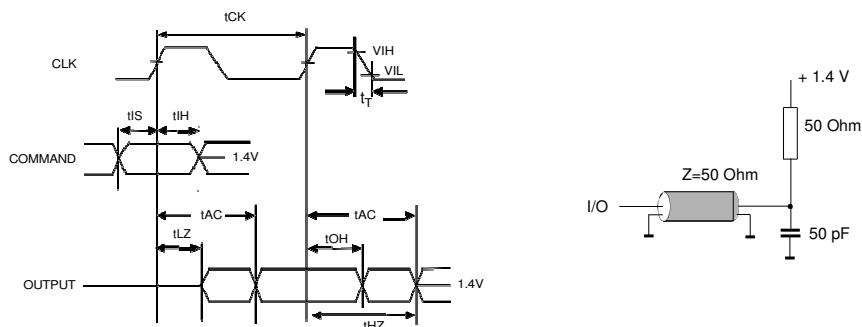

Figure 1.
- AC timing tests have  $V_{IL} = 0.4V$  and  $V_{IH} = 2.4V$  with the timing referenced to the 1.4 V crossover point. The transition time is measured between  $V_{IH}$  and  $V_{IL}$ . All AC measurements assume  $t_T = 1ns$  with the AC output load circuit shown in Figure 1.